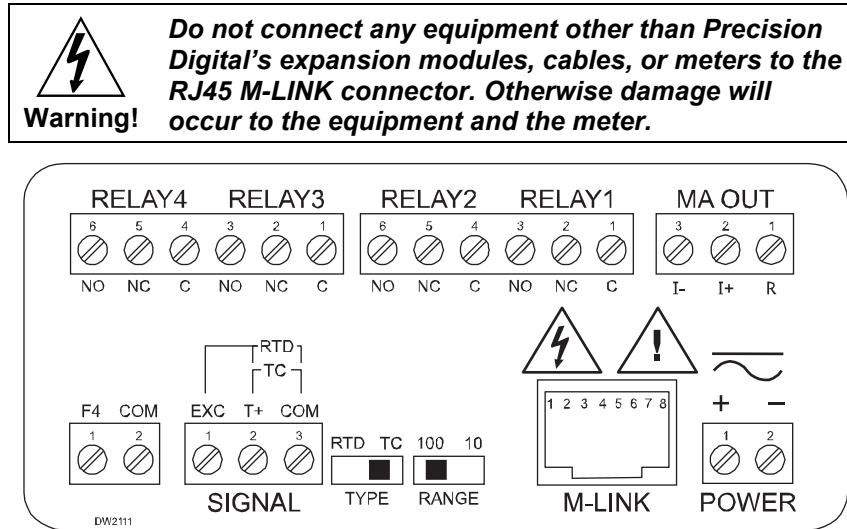

Figure 2. Connector Labeling for Fully Loaded PD8-7000
Power connections are made to a two-terminal connector labeled POWER on Figure 2. The meter will operate regardless of DC polarity connection. The + and - symbols are only a suggested wiring convention.
Signal connections are made to a three-terminal connector labeled SIGNAL on Figure 2.
Relay connections are made to two six-terminal connectors labeled RELAY1 – RELAY4 on Figure 2. Each relay's C terminal is common only to the normally open (NO) and normally closed (NC) contacts of the corresponding relay. The relays' C terminals should not be confused with the COM (common) terminal of the INPUT SIGNAL connector.